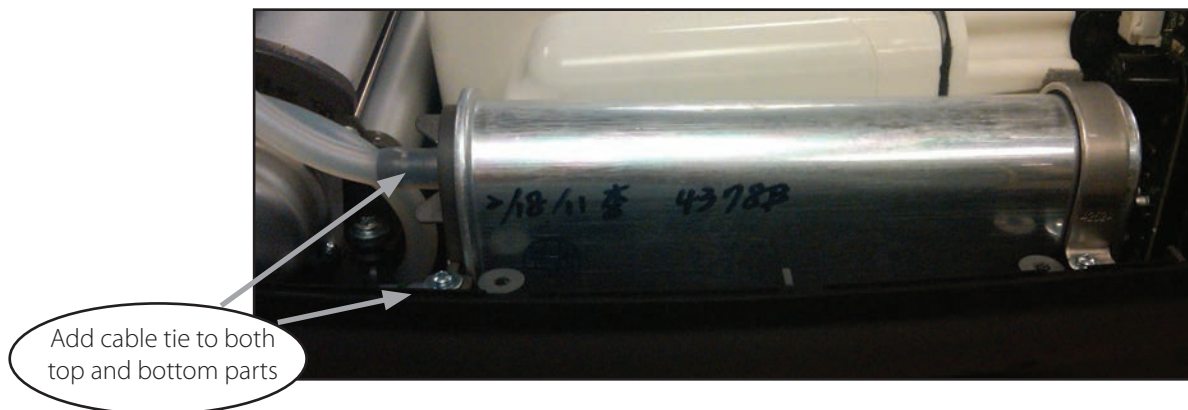

Figure 41: Connect output tubing
- 5) Connect the Output tubing to the Top port on the Product Tank and secure with cable ties. See Figure 41.